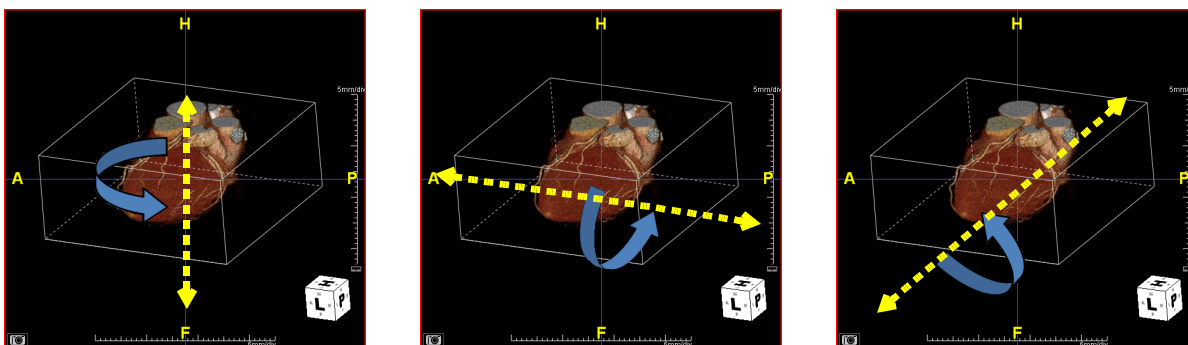

Figure 3-109: Rotation About Axes
- To rotate about an axis in the center of image, hover over one of the edges (see Figure 3-109). A circle appears the center point along that edge. Click and hold down the mouse to rotate.